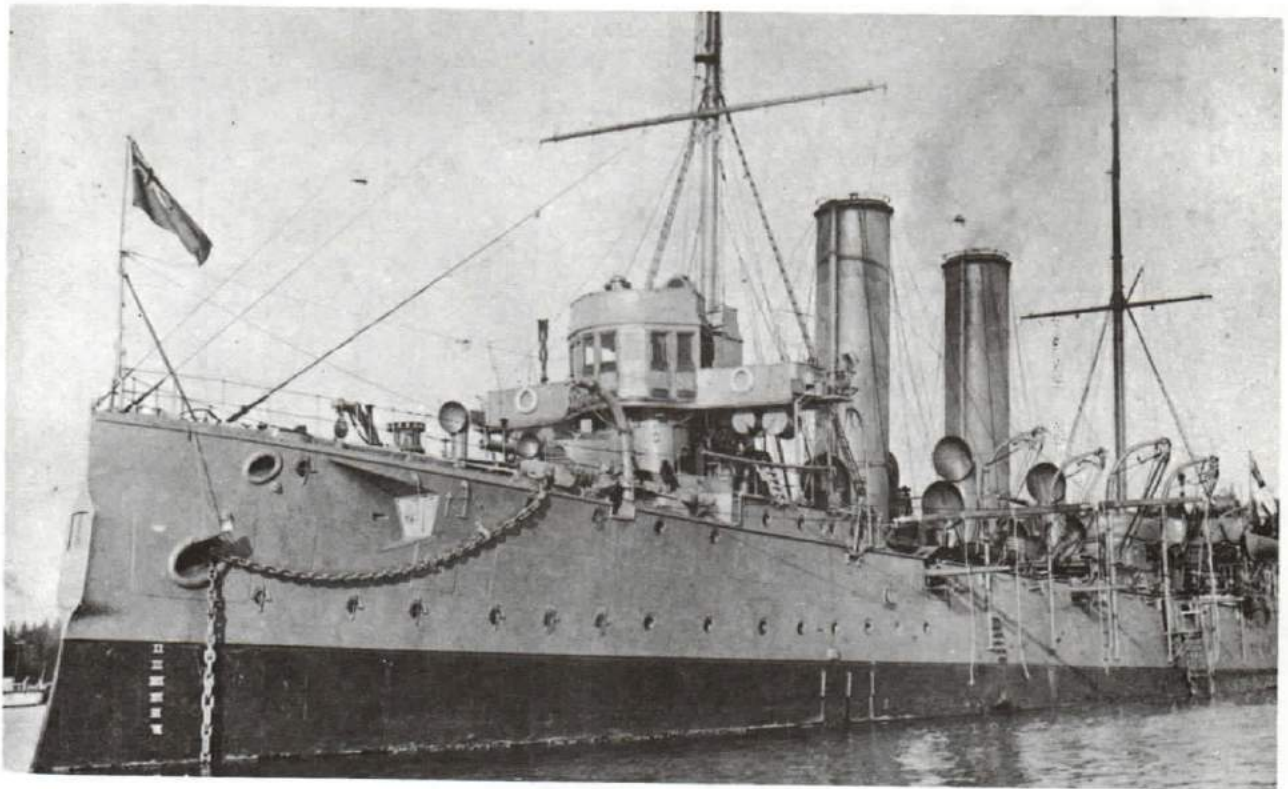
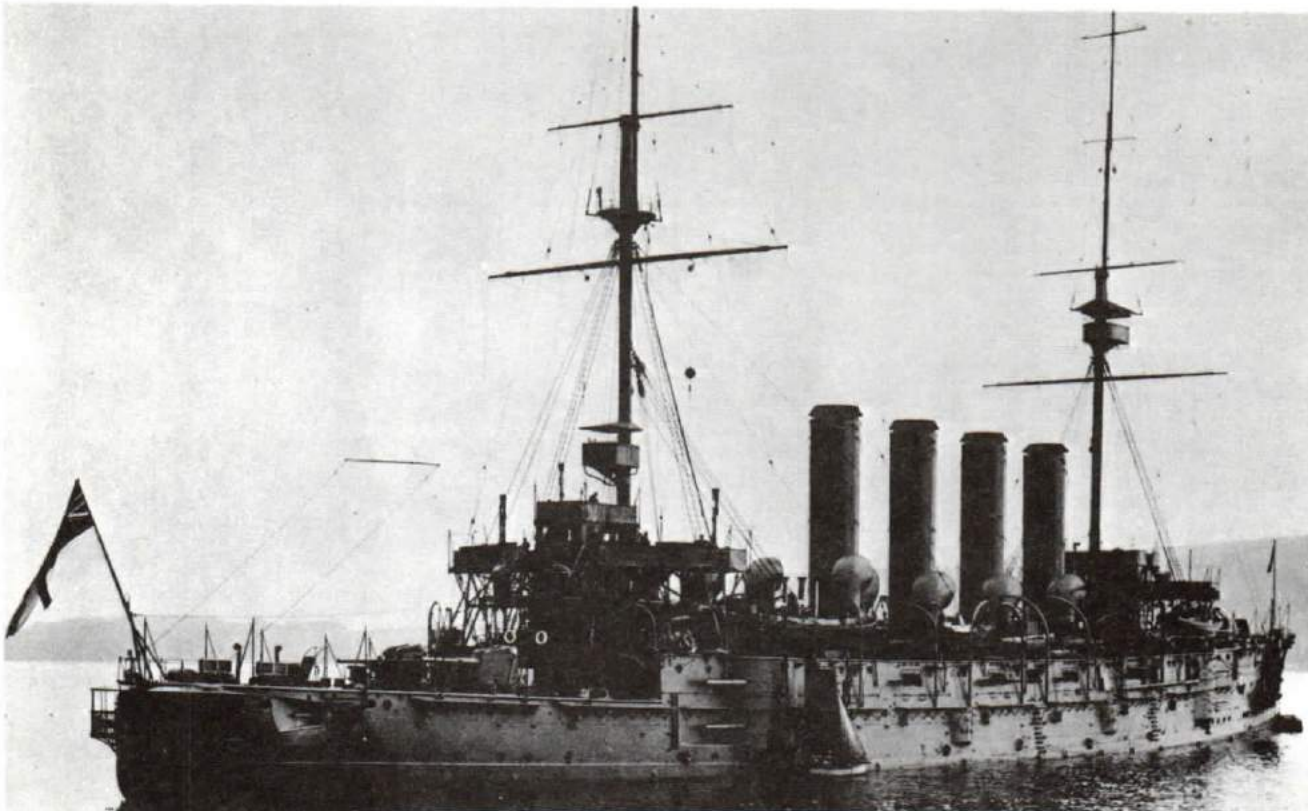

Figure 1-2
Figure 1-3
5. Everyone knows that while Henry Ford dreamed of and planned for the day when everyone would own a "horseless carriage", he began by building one of these machines in his workshop. So while the fathers of the RCN planned for a Canadian-built fleet of six destroyers and five cruisers, they began humbly by purchasing from the Royal Navy two cruisers named *Rainbow* (see Figure 1-2) and *Niobe* (see Figure 1-3). These ships were to be used as training vessels: *Niobe* on the east coast and *Rainbow* on the west. In the fall of 1910, they arrived on their respective stations. Recruiting was started for the new RCN, and for a while the future looked bright, but fate was once again to take a hand. To understand what happened, it will be necessary to take a look at Canadian history.